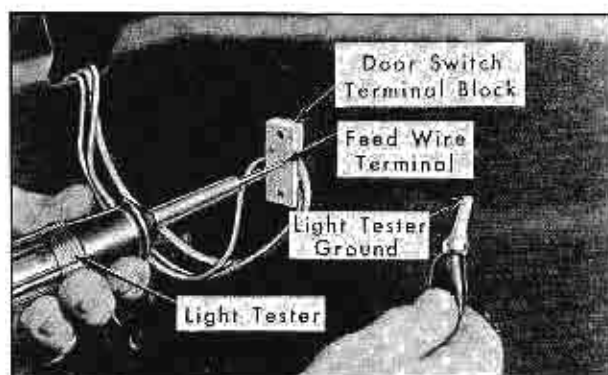

Fig. 3-91 Checking Door Window Switch Current
2. Ground the light tester ground lead to the body. Fig. 3-91.